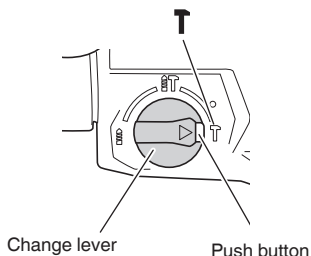

Fig. 11
This rotary hammer can be set to hammering only mode by pressing the push button and turning the change lever to the **T** mark (Fig. 11).
- (3) Turn the change lever to **T** mark (**Fig. 11**). Then the tool is locked.